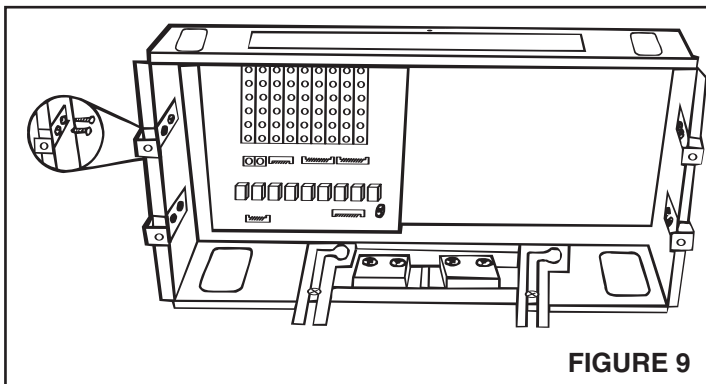

FIGURE 9
1. Refer to Figure 9. Use two (2) #6x $\frac{3}{8}$ " screws per bracket to attach each of the four (4) mounting brackets to the rough-in frame. Before tightening, slide the bracket so it is flush with the wall surface (flush with rough-in frame if the rough-in is installed after the wall board). Tighten all eight (8) screws.